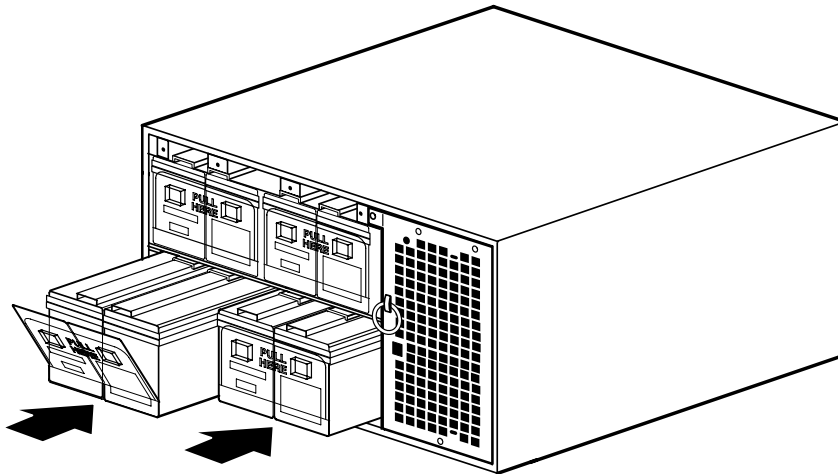

Figure 54. Installing the UPS Battery Trays
5. Slide the new battery trays into the cabinet (see Figure 54). Verify each tray is properly aligned before sliding the tray in.